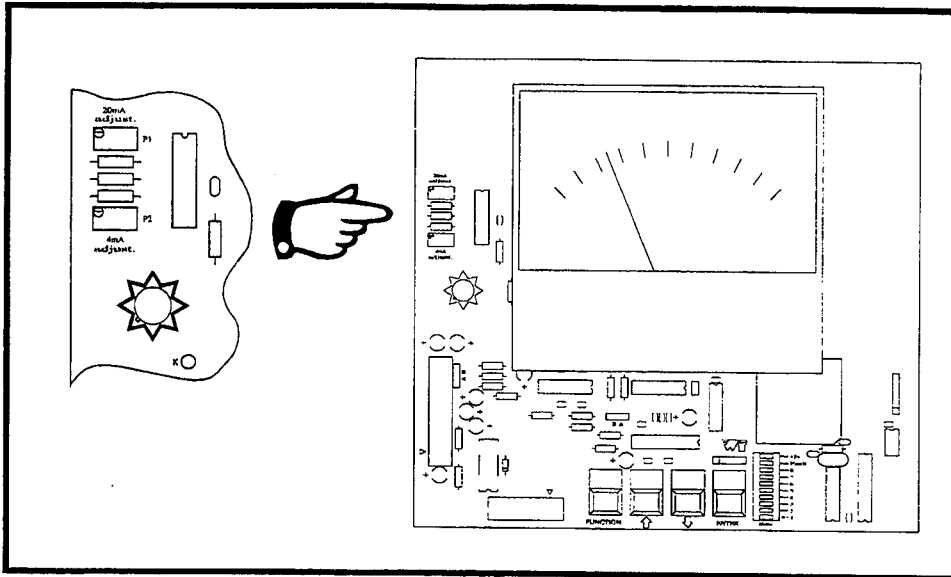

Figure 3-3
- (l) Adjust the **20mA adjust** potentiometer located on the CPU card, see Figure 3-3, until the ammeter reads as close to 20mA as possible.
- (h) Adjust the **4mA adjust** potentiometer located on the CPU card, see Figure 3-3, until the ammeter reads as close to 4mA as possible.